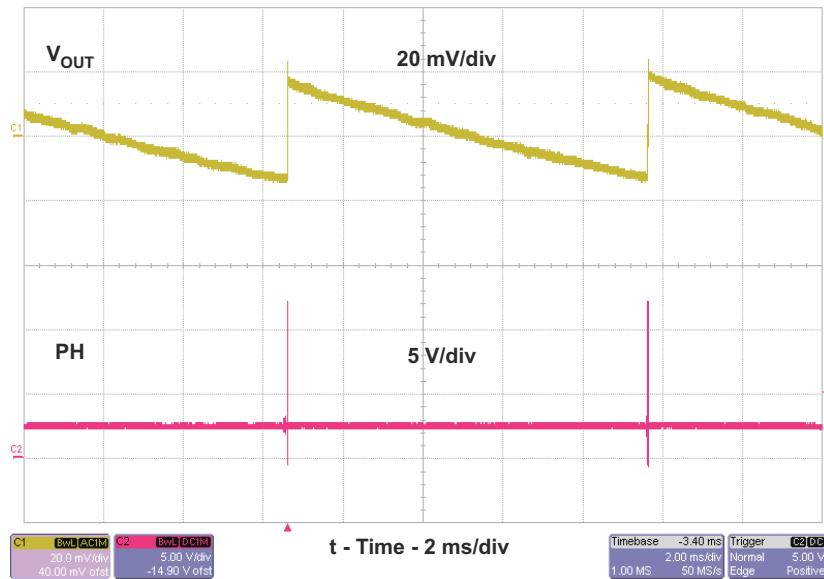

Figure 2-10. TPS54332EVM-416 Eco-mode™ Operation
Figure 2-10 shows Eco-mode operation, channel 1(C1) shows the output voltage while channel 2(C2) shows the switching node (PH).